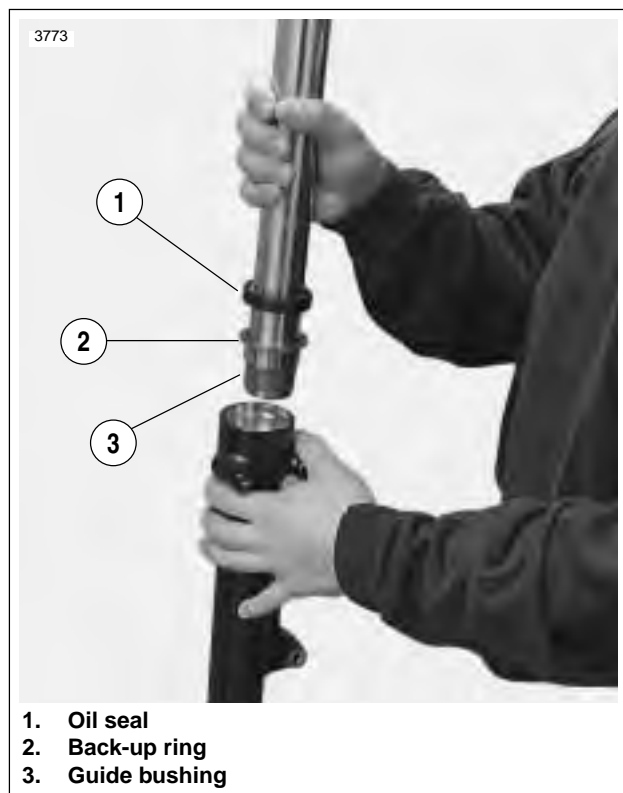

Figure 2-75. Removing Slider Tube
10. See Figure 2-75. Pull the slider tube out of the slider assembly. Remove oil seal, back-up ring and guide bushing.